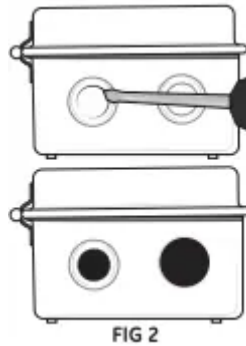

FIG 2
1. Place small-blade screwdriver into inner ring of knockout circle [FIG 2].